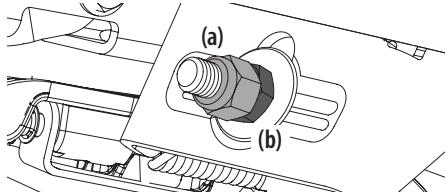

Figure 39
- To raise the front of the deck, remove the end cap, loosen the outer jam nut (a) then tighten (thread inward) the inner nut (b) against the front hanger bracket. See Figure 39. When proper adjustment is achieved, re-tighten the outer jam nut (a) to 57 ft-lbs (77 N-m) and replace the end cap.
- To lower the front of the deck, remove the end cap, loosen the outer jam nut (a) then loosen (thread outward) the inner nut (b), away from the front hanger bracket. See Figure 39. When proper adjustment is achieved, re-tighten the outer jam nut (a) to 57 ft-lbs (77 N-m) and replace the end cap.